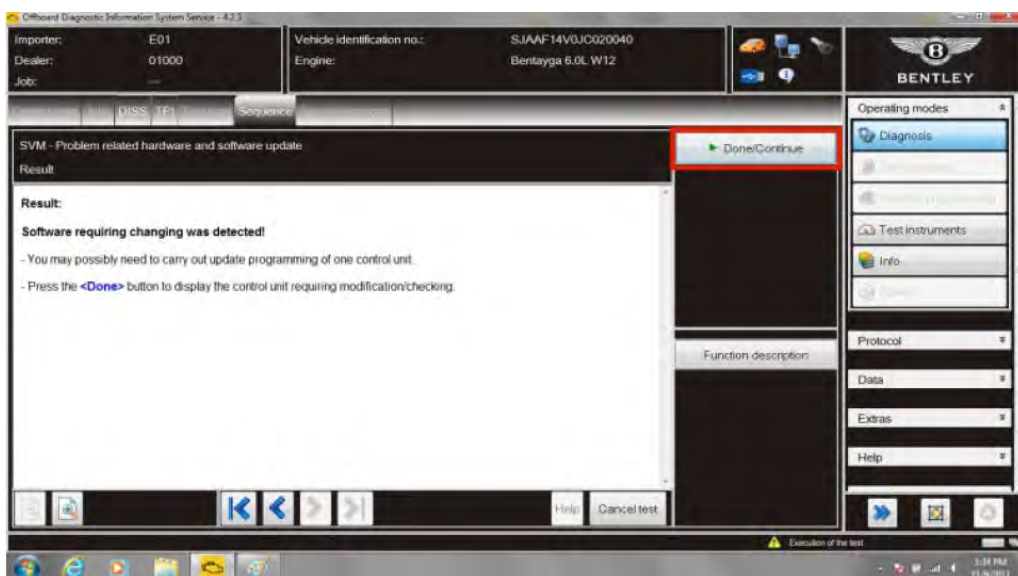

Figure 3
9. Once software that requires changing is detected select Done/Continue (see Figure 3) Note: each of the four control units will be offered for software update individually by the program. Follow prompts, the online connection will deliver the required software to the tester